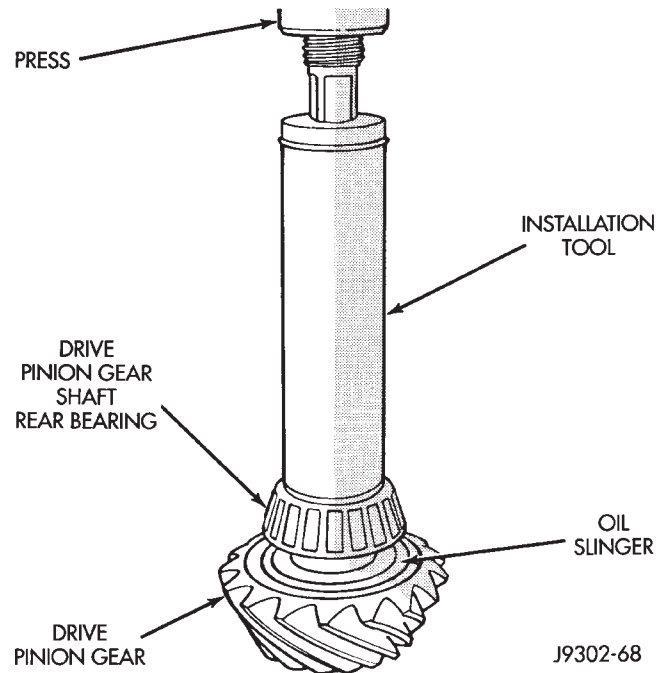

Fig. 27 Shaft Rear Bearing Installation
- (3) Install the rear bearing (and slinger if used) on the pinion gear with Installer W-262 (Fig. 27).